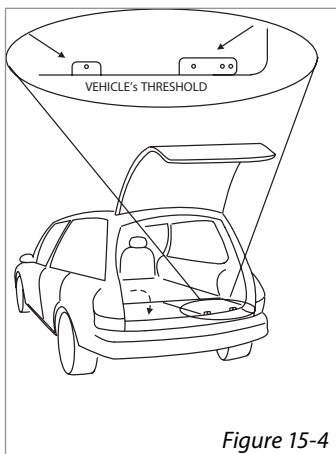

Figure 15-4
- Fold third-row seating back into well.** Verify vertical joiner mount holes are above threshold. [Figure 15-4]